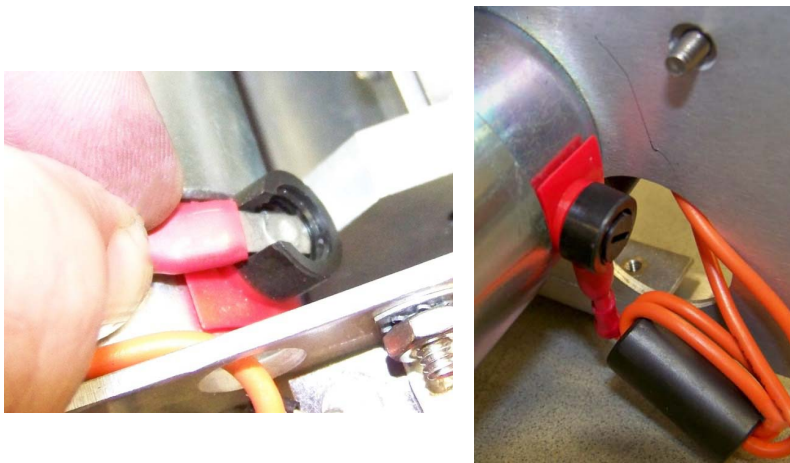

Figure 9-33 New brush reinstalled; set screw replaced
15. Connect the bottom orange wire to the new brush and insert the new brush into the motor using the connector as leverage to guide brush into the motor. Hold the connector so the brush is fully engaged into the motor (Figure 9-33) then reinstall the set screw that holds brush in place. Repeat this process for the top orange wire.